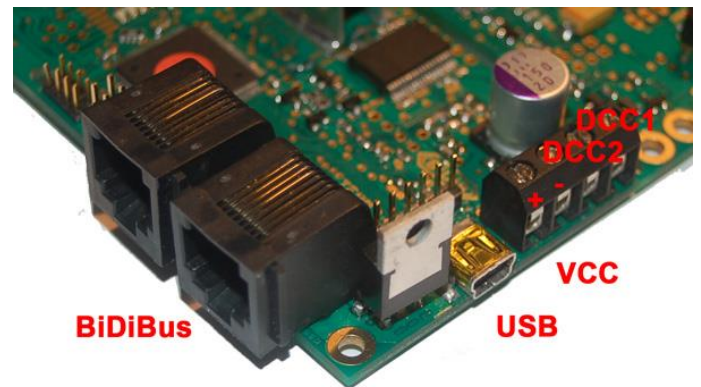

Figure 55: Connectors GBMboost view 1
- The other GBM16T modules are supplied via terminal X2 of GBM16T to GBM16T terminal X2. (see Figure 55)